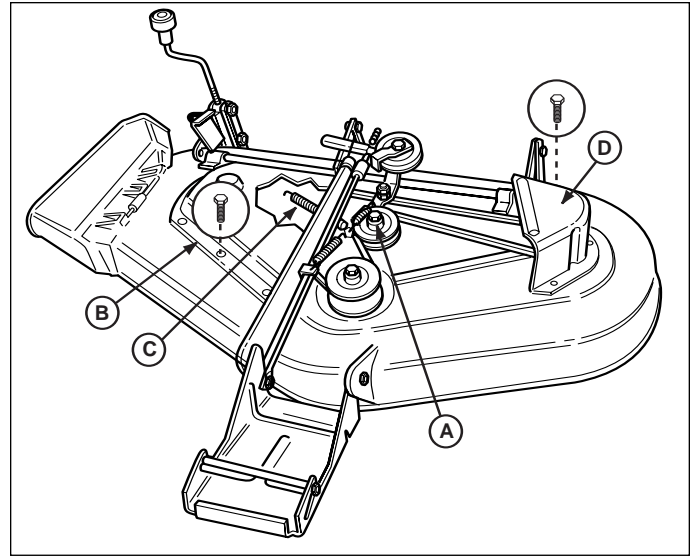

Figure 43. Mower Deck - 44" & 50" Mowers
3. Remove the capscrews securing the right-hand arbor cover (B, Figure 43). Remove three capscrews securing left-hand arbor cover (D).
4. Using a pair of locking pliers or a spring puller, remove the idler pulley spring (C, Figures 43) from slot in deck.
5. Loosen capscrew (A, Figure 43) securing the idler pulley to the bracket. The belt can now be slipped between the pulley and idler bracket hub.
7. Tighten the capscrew (A, Figure 43).
8. Reinstall spring (C, Figures 43) into its slot in mower deck.
9. Reinstall the left and right arbor covers (B and D, Figures 43).